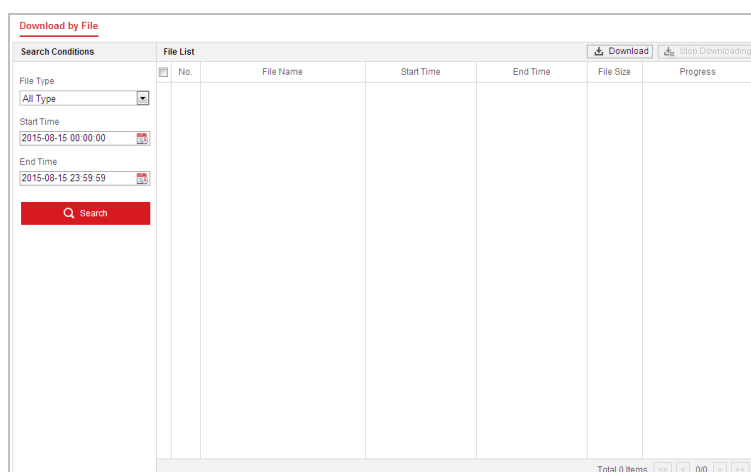

Figure 8-7 Video Downloading interface
1. Click  on the playback interface. The pop-up menu is shown in Figure 8-7.